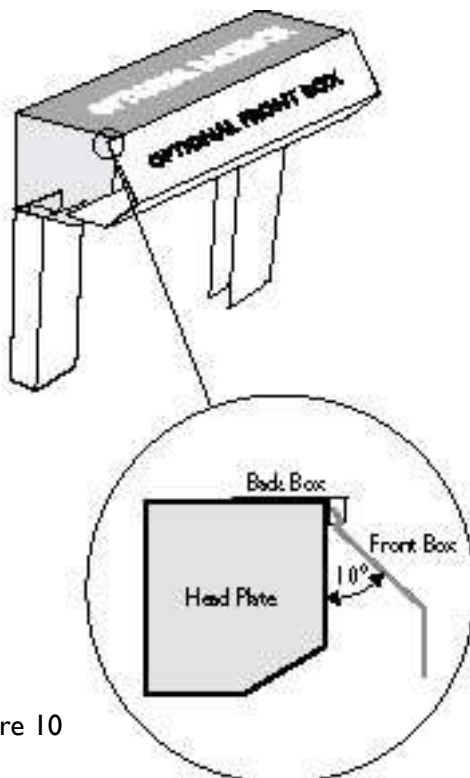

Figure 10
- (1) Clip the internal cover into the back box top retaining lip at approximately 10 degrees (**See Fig 10**).
- (2) Once clipped along the entire length of the back box top lip place the internal cover tight to the head plates.
- (3) Drill and fix in place with self tapping screws or pop rivets.
- (4) Drill a hole in the front box to allow the manual over-ride adaptor to pass through and locate into the over-ride eye on the motor unit. Please note that over-ride adaptor should now be stored securely with the crank handle, and not permanently fixed.